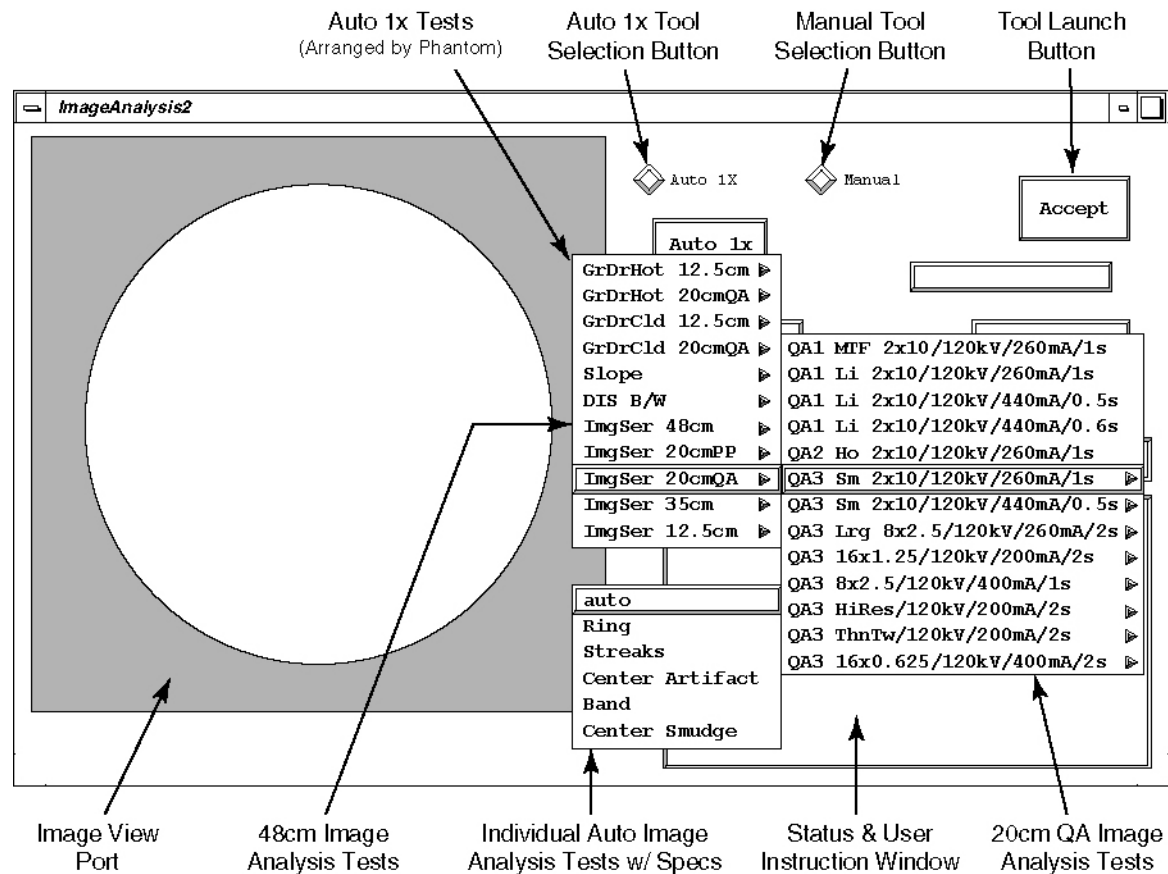

Figure 3-2 Image Analysis Tool User Interface - Auto 1x Test Pull Down Menu
- b.) On the Image Analysis Tool window, click on the AUTO 1X diamond shaped button. (See Figure 3-2, on page 54.)